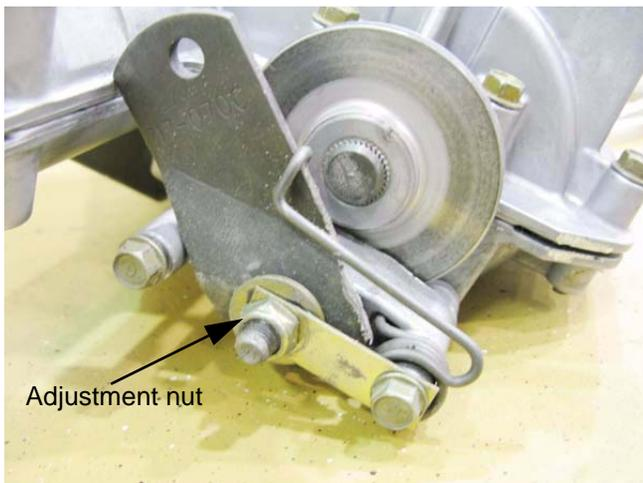

Figure 6.111
- 35f. Set the clearance between the pads and rotor to 0.010-0.015" (0.25-0.38mm) using the adjusting nut on the brake yoke. See Figure 6.111.